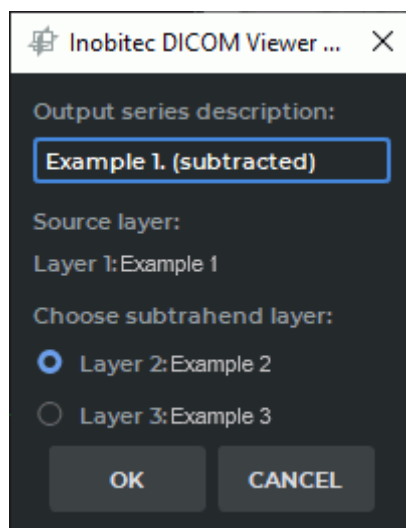

Figure 3.12: Creating a fused series for volume subtraction
4. In the dialog box that pops up (Fig. 3.12), add the description of the created series. By default, the description is generated automatically on the basis of the following template: *<Name of the first layer>(subtracted)*. Check the information on the initial layer and select the layer to be subtracted.